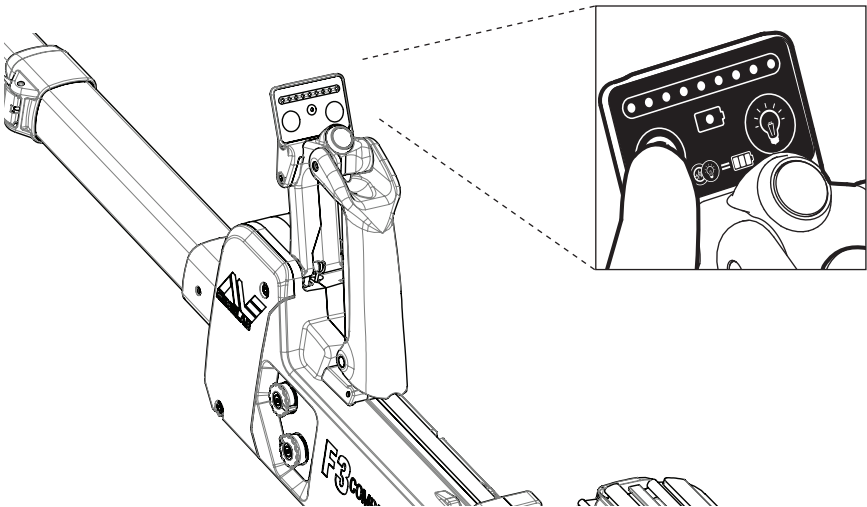

Figure 17: Noise Cancel
- a. Holding the coil stationary and at least 600 mm (24 ins) above the ground **press and immediately release** the Noise Cancel button. (see Figure 17)